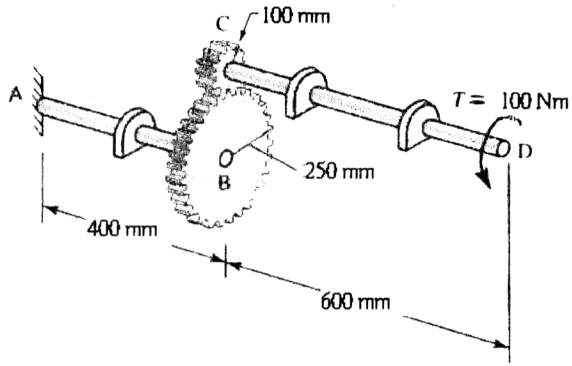

Fig. 3.
3. (20%) A gear-shaft system consists of identical steel shafts having diameter d , as shown in Fig.3., where A is fixed against rotation. The diameters of gears B and C are 250 and 100 mm, respectively. A torsional moment $T = 1000$ N.m is applied at D . Assuming no slippage of the gears, determine the required diameter of the shafts if the allowable shear stress is 60 MPa and if the rotation of the cross-section D is not to exceed 1.5 degree.